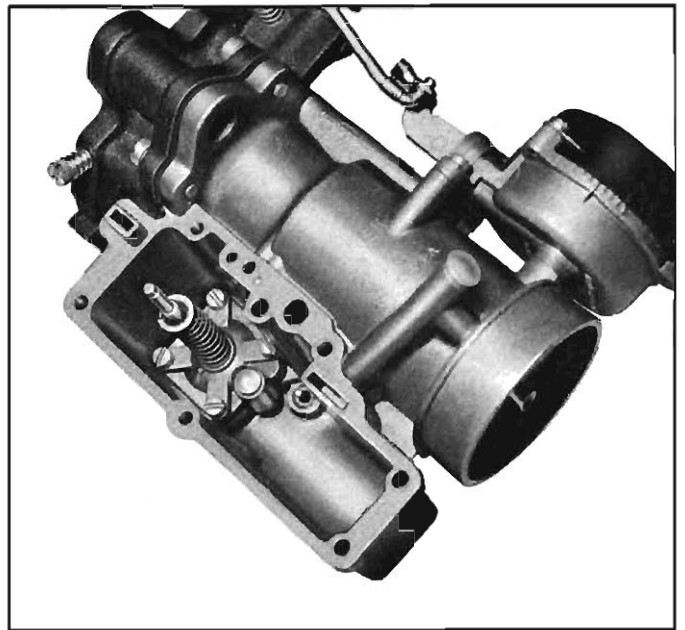

Fig. 9-36—Pump Diaphragm and Metering Jet Installation
6. Install diaphragm housing screws in housing and thread them 2 or 3 threads into diaphragm (to hold diaphragm in alignment), then install the assembly in carburetor bowl and tighten screws (fig. 9-36).